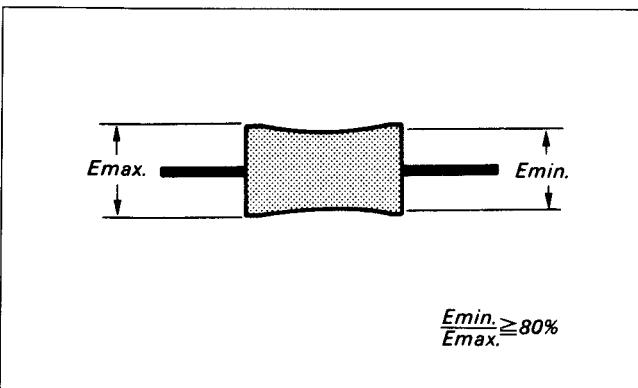

Fig. 7-80.
- 3) Confirm that the RF waveform amplitude minimum value ($E_{min.}$) at this time is more than 80% of maximum value ($E_{max.}$). (See Fig. 7-80.)